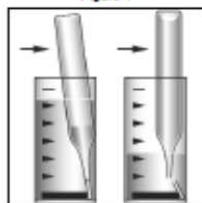

Figure 2
2. Place the ampoule, tip first, into the sample cup. Snap the tip. The ampoule will fill, leaving a bubble for mixing (fig 2).